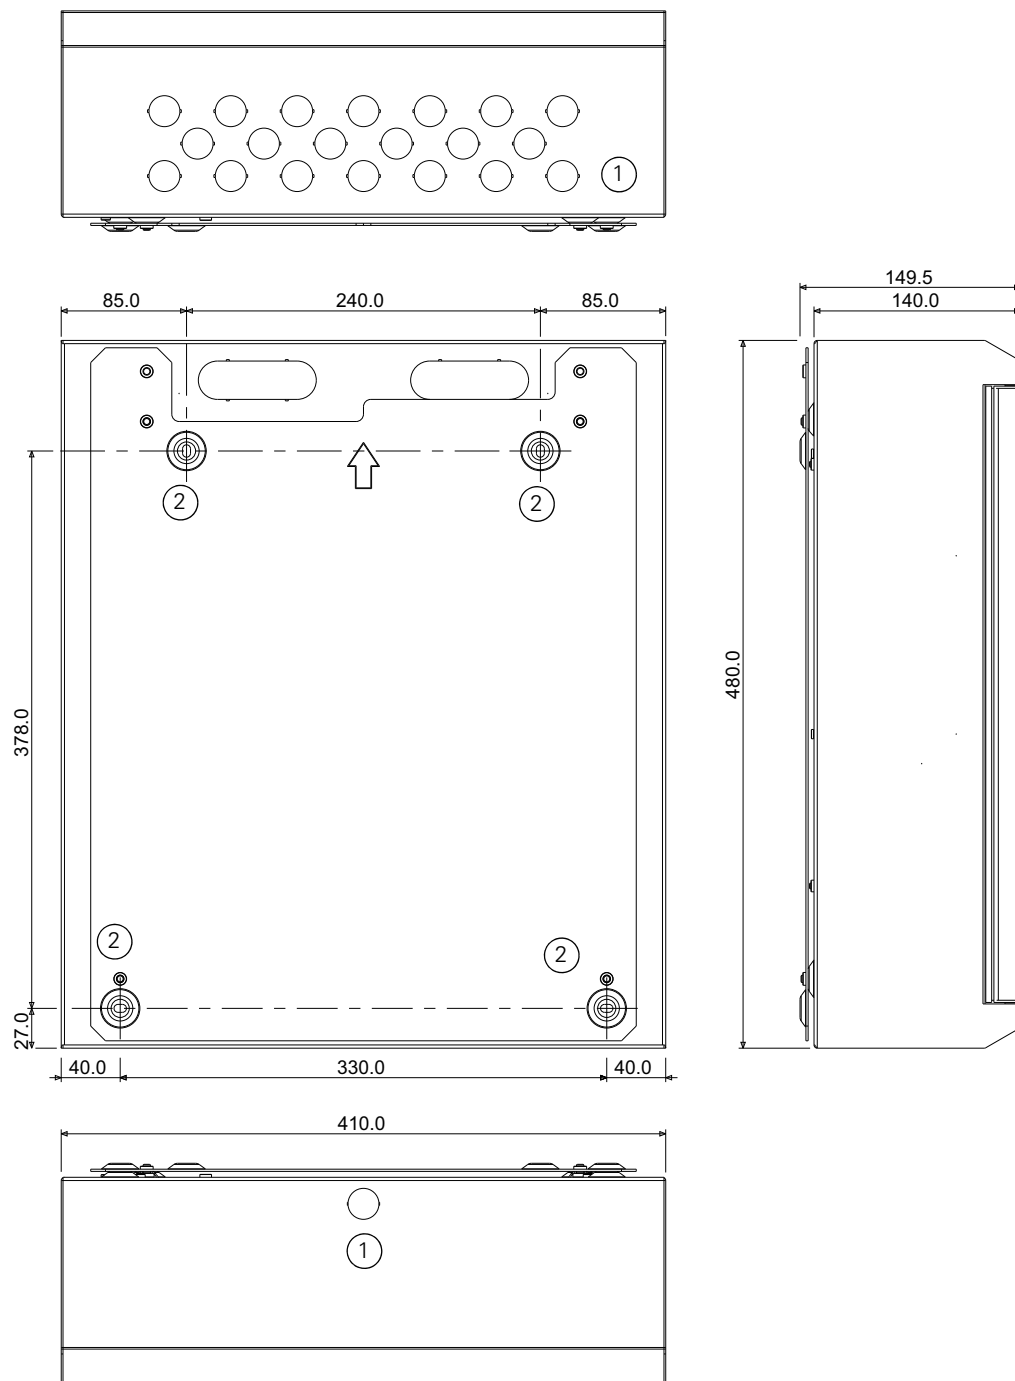

Fig. 14: FireClass Single Loop Panel Shallow and FC8AS FireClass AC Repeater - Overall and Fixing Dimensions Knockouts \varnothing 20 mm (13x)
- hole. Make sure that the plate is the right way up. See the arrow pointing upwards on the mounting plate. Refer to Fig. 14.